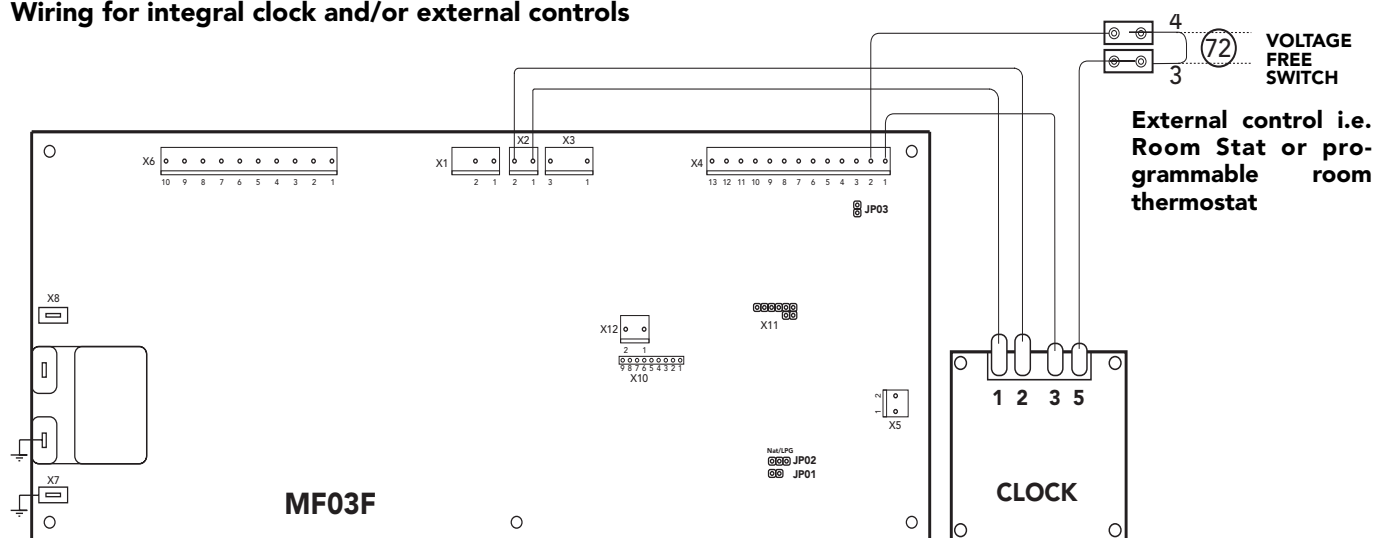

Fig. 21b
### **3.12 Installing a room thermostat (72)** (fig. 21b)
Connect the room thermostat (72) as shown in figure 21b.